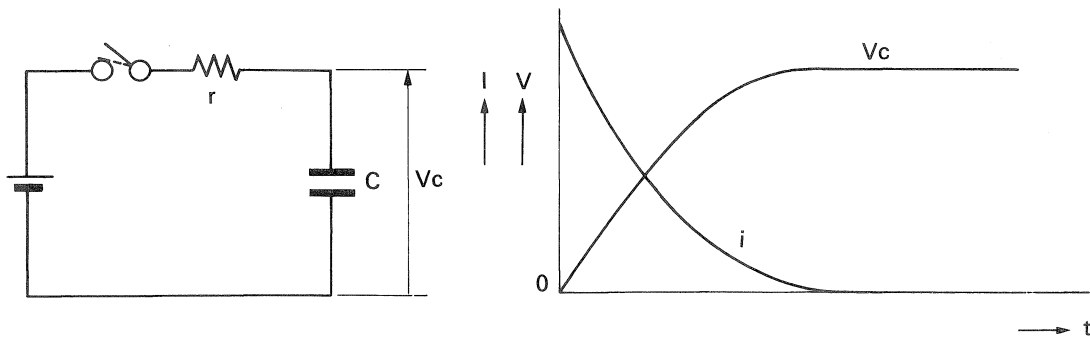

Fig. 13 Charging current & voltage
In the circuit shown in Fig. 13, the voltage drops due to the presence of resistance “r” when the switch is turned on and so charging is not completed in an instant but takes a certain period of time. At this time, the current entering the capacitor and the voltage at both ends are as per Figs. 13(2) 1) and 2).